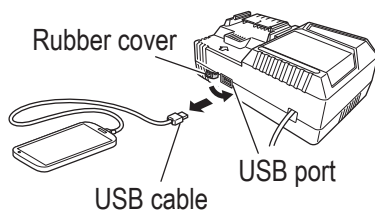

Fig. 41
- Unplug the power cord from the electrical outlet. (Fig. 41)